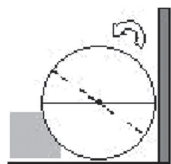

Figure 7b: Test 3, turning the cone.
4. Turn the cone until the line on the end is horizontal (figure 7b).